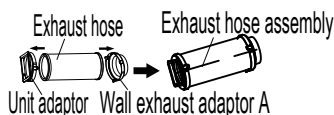

Fig. 4
1. Connect the exhaust hose into the window slider adaptor (into wall window slider adaptor for wall installation) and unit adaptor, clamp automatically by elastic buckles of the adaptors (See Fig.4).